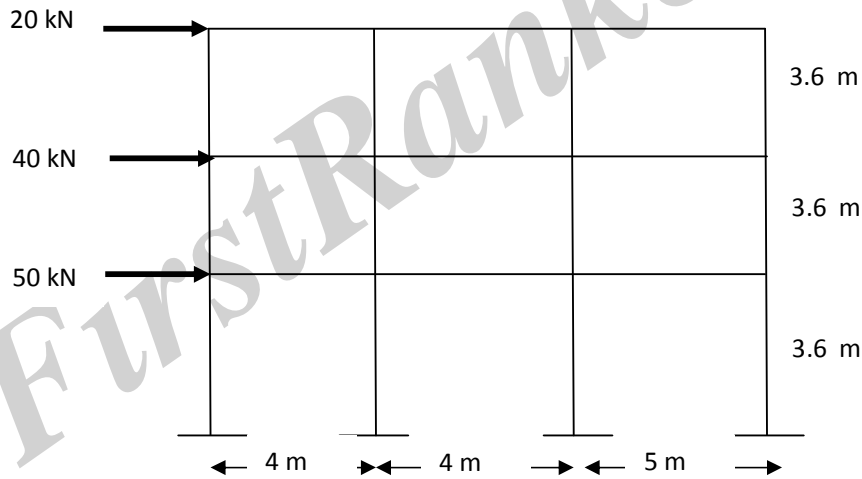

Fig.1
3. Analyse the frame shown in Fig.1, using Portal Method,